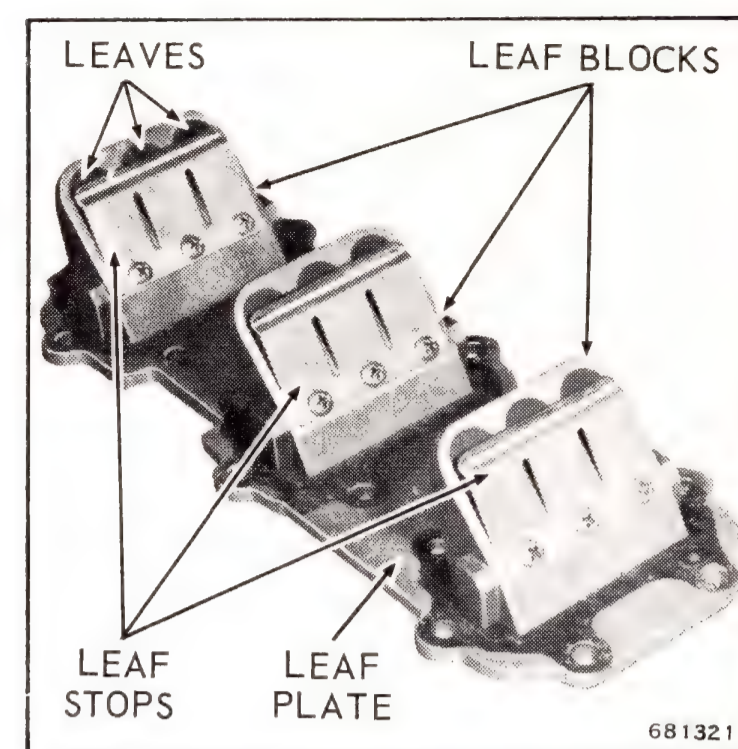

Figure 3-17. Leaf Valves
a. Inspect the leaf plate assembly and disassemble if necessary. The leaf valves must be free from all varnish and gum, and the leaves must be perfectly flat and without distortion so that they form a seal with the leaf plate base. See Figure 3-17.
b. The leaf is so designed that it maintains constant contact with the leaf block, and will spring away from the block when predetermined pressure is exerted against it. Leaf travel away from the block is limited by the leaf stop. When pressure is removed, the inherent spring action of the segments returns and holds them against the block. Attach the leaf segments and leaf stops to the leaf blocks, then examine each leaf carefully. Each leaf must lie flat against the block with no edges turned up or away from the block. See Figure 3-17.